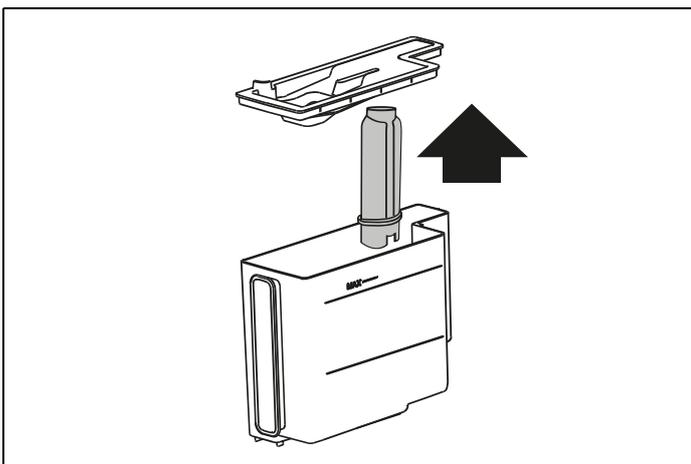

Fig. 55
- **Remove water filter** (Fig. 55): extract the water tank **(A12)**, remove the water softener filter **(C4)** (if present) and empty the water tank. Press  **NEXT**;